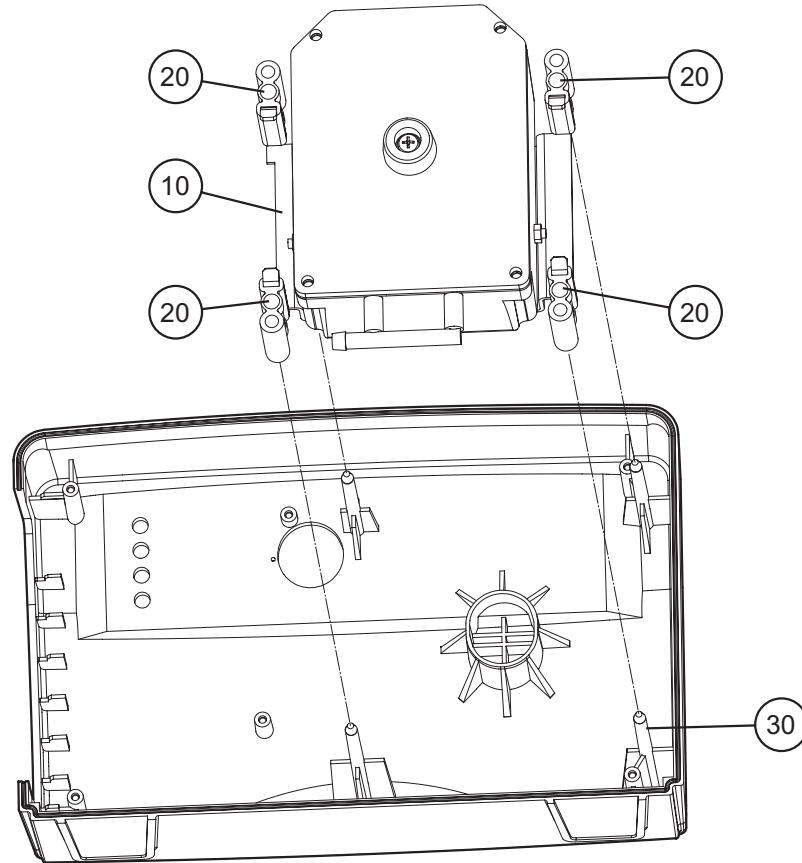

Figure 7 - Replacing the New Style AV Mounts
- 14.3 Carefully lift the compressor, mounting bracket (Fig 7, Item 10) and AV mounts (Fig 7, Item 20) from the mounting pins (Fig 7, Item 30).
- 15.1 Fit new AV mounts (Fig 7, Item 20) of the same type to the mounting bracket (Fig 7, Item 10).
- 15.2 Carefully fit the compressor, mounting bracket and AV mounts to the mounting pins (Fig 7, Item 30) in the pump case. Ensure that all four AV mounts are correctly located on the mounting pins.
Note : Figure 7 illustrates the new style AV mount system. Compressor mounting bracket to compressor assembly methods are the same for both old and new style AV mount systems.
Note : Figure 7 illustrates the new style AV mount system. Bump stop to compressor and bump stop to compressor mounting bracket assembly methods are the same for both old and new style AV mount systems.